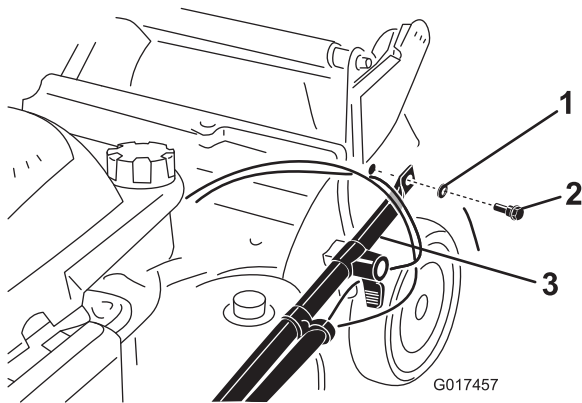

Figure 4
2. Attach the handle ends to the machine housing with 2 washers and 2 handle bolts (Figure 4), but do not tighten the handle bolts.
Important: Route the cables to the *outside* of the handle (Figure 4).